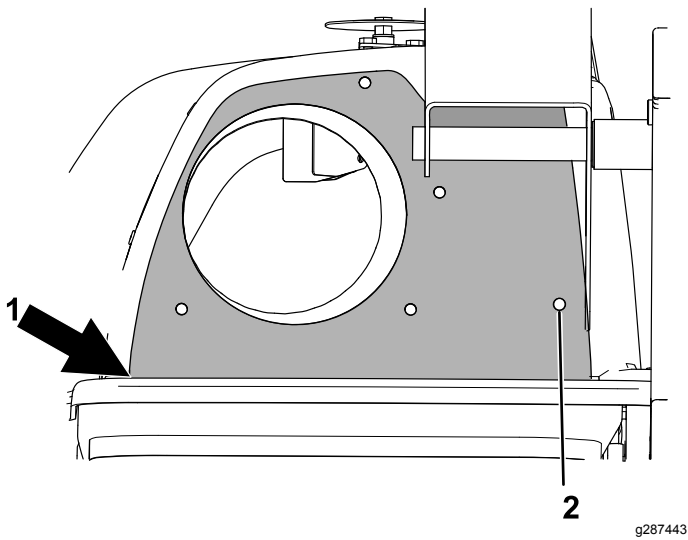

Figure 6
- Place the template on the hood, aligning the right hole with the mount hole for the pivot bracket and the bottom edge with the ledge of the hood (Figure 6).